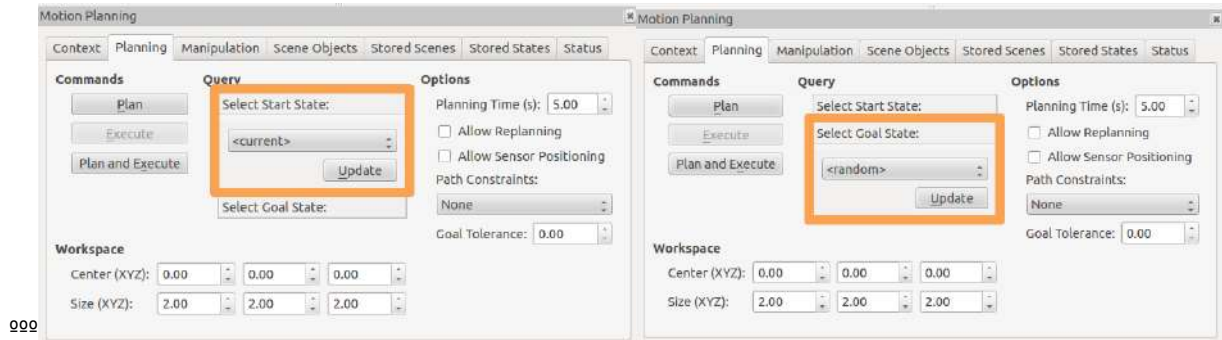

Figure 122: Tab to set start state (left) and tab to set goal state (right).
3. In order to use motion planning, a Start State and Goal State has to be known. To do this with the *MoveIt!* GUI, navigate to the tab called “Planning” in the display called MotionPlanning. On this tab, further nested tabs provide the functionality to update Start State and Goal State, as depicted in figure 122.